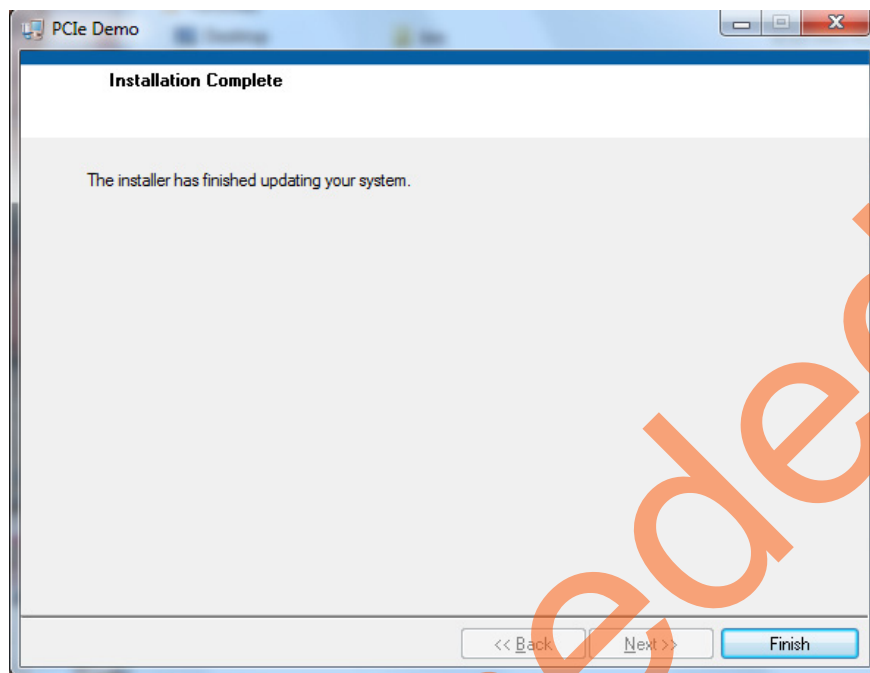

Figure 15 • Successful Installation of GUI
4. Click **Next** and **Finish** to complete the installation. Figure 15 shows the Successful GUI Installation window.